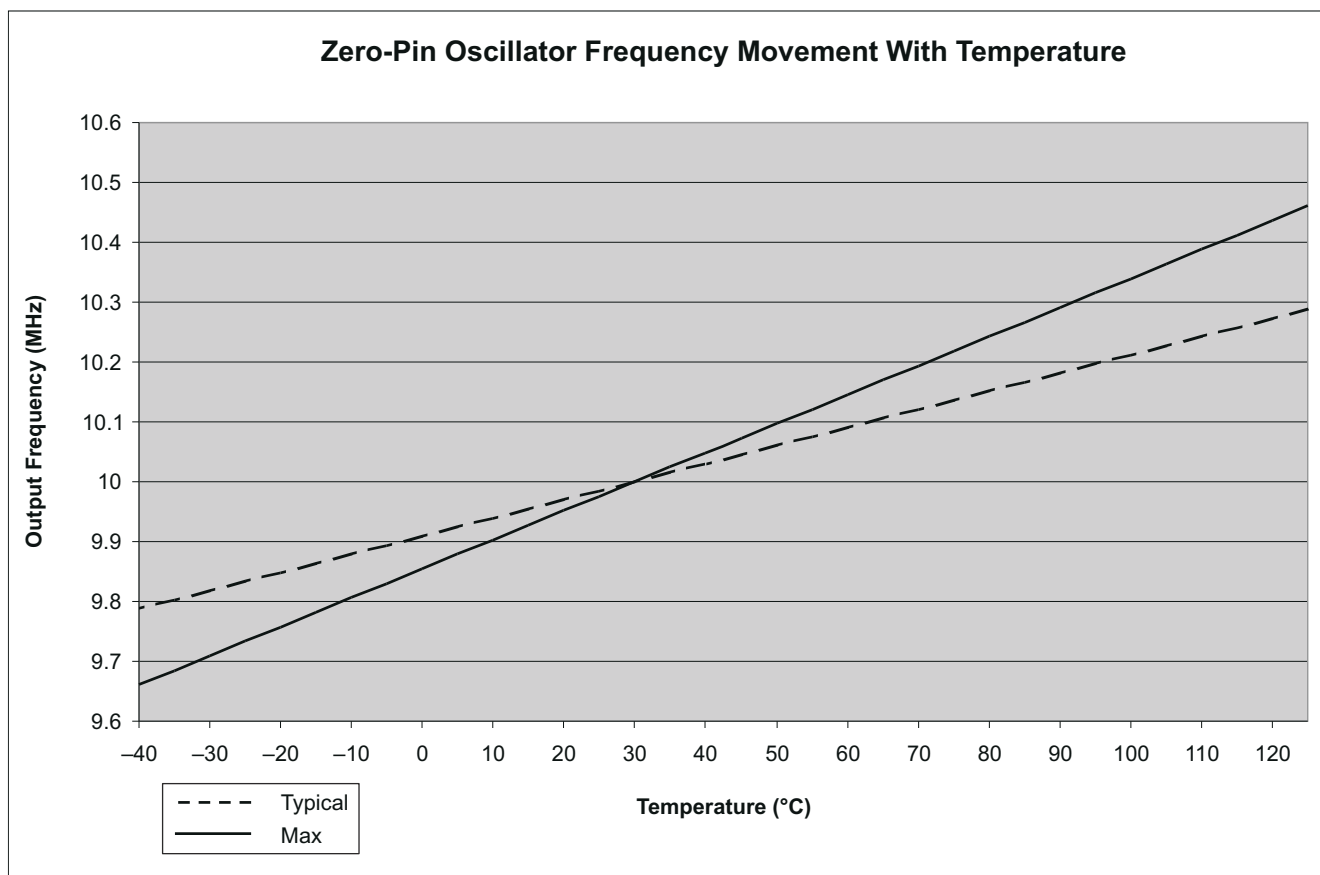

图 7-9. Zero-Pin Oscillator Frequency Movement With Temperature
- (1) Oscillator frequency will vary over temperature, see 图 7-9. To compensate for oscillator temperature drift, see the Oscillator Compensation Guide and C2000Ware for C2000 MCUs.
- (2) Frequency range is ensured only when VREG is enabled, V_{REGENZ} = V_{SS}.
- (3) Output frequency of the internal oscillators follows the direction of both the temperature gradient and voltage (V_{DD}) gradient. For example: